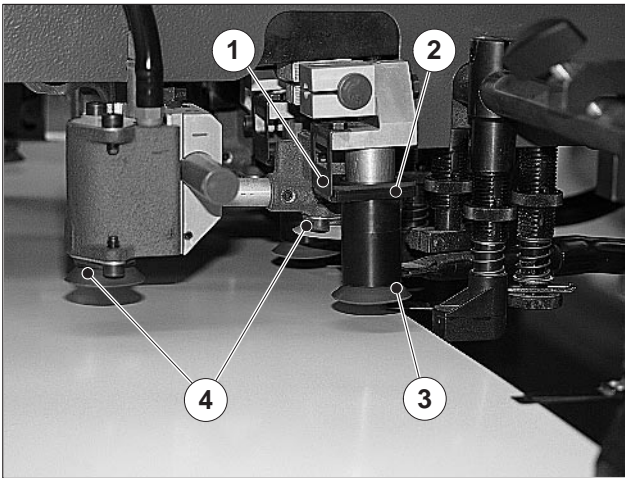

Fig. 22 Lifting suckers
The lifting suckers (Fig. 22/3) raise the topmost sheet at its rear edge and separate it from the pile.
1. Rotate the lifting sucker (Fig. 22/3) through 90° and pull it out from the bottom.
2. Insert the new lifting sucker into the retainer on the suction head. The collar (Fig. 22/2) of the lifting sucker must be above the stop (Fig. 22/1).
The forwarding suckers (Fig. 22/4) take the sheet that is raised by the lifting suckers.